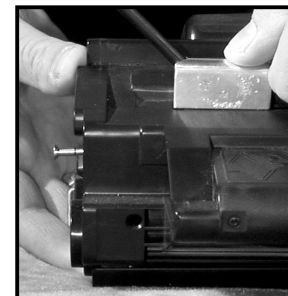

Figure 2
2. Move the H4TL10 to the right side of the cartridge until it stops. Hold the handle opposite the pin to be removed (position your thumb in the middle of the top of the tool (Fig. 2), and begin applying pressure to the pin. The OEM pins may require a substantial amount of force before they will dislodge. If the pin does not move, reseal the H4TL10 and try again. With some practice, you will begin to acquire a "feel" for the proper placement of the tool and the amount of pressure needed to remove the pins.